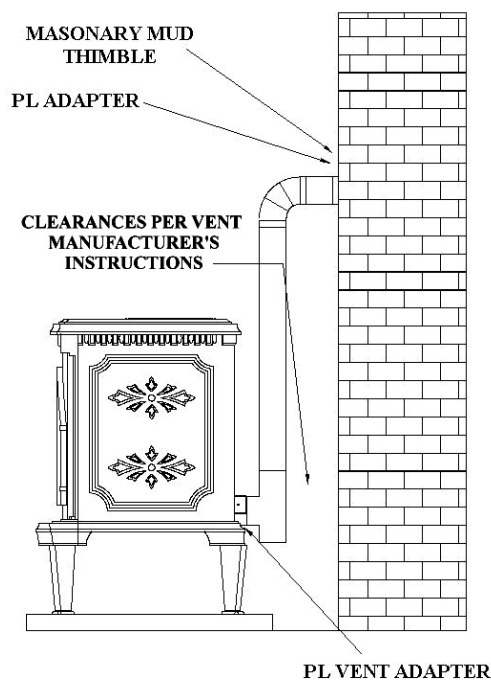

Figure 7
3. Venting into the side of an existing masonry chimney must be done through a masonry thimble. When wall penetration is necessary to access a masonry chimney, use a listed PL vent wall thimble. (Figure 7).